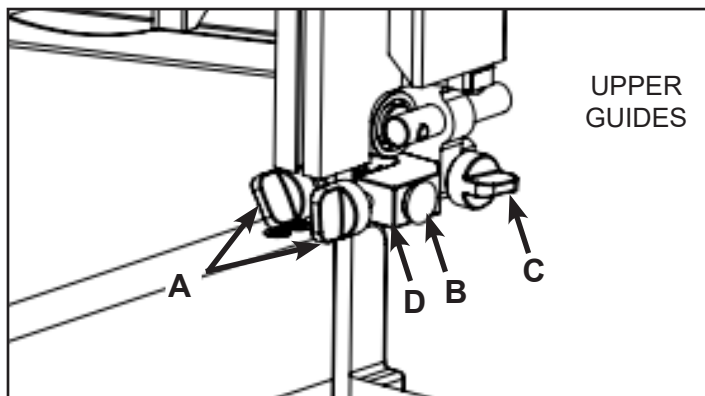
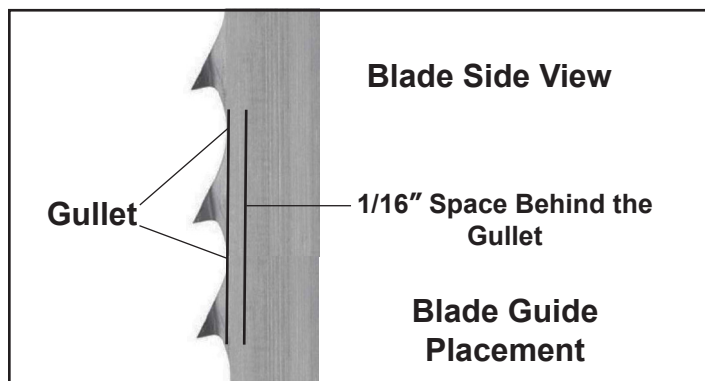
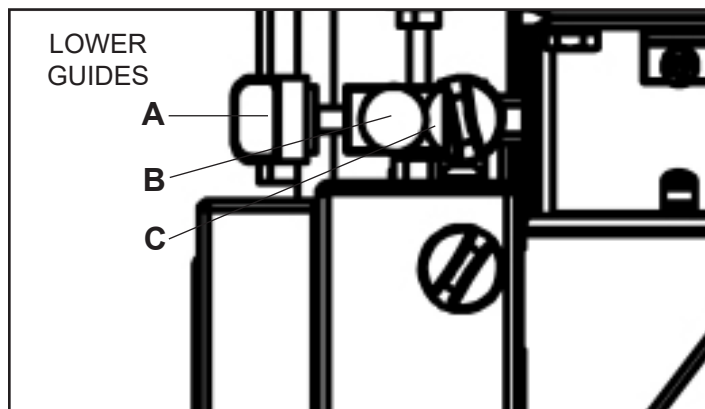
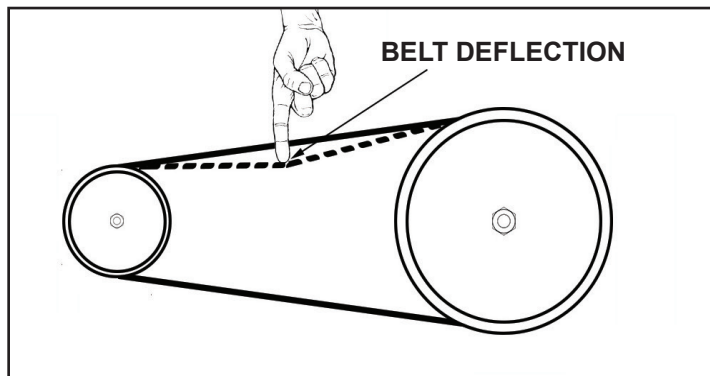

FIGURE 17
FIGURE 18
FIGURE 20
FIGURE 25
1. Position the right and left guides about 1/32" to the blade sides. First, loosen their front Lock Handles (#108, FIG. 17, A) by twisting them counterclockwise. The guides are spring loaded! To move the side guides (B) towards the blade, simply push the ends of the guide shafts. Lock the guides in place by tightening the lock handles clockwise. FIG. 17.
2. The guides should be approximately 1/16" behind the gullets of the saw blade. FIG. 18. If they need to be moved, loosen the back Clamp Handle (#103, FIG. 17, C) and move the Upper Guide Block (#107, FIG. 17, D) that holds the guides so that the guides are properly positioned behind the blade gullets. Re-tighten the handle when done.
1. Position the right and left blade guides close to the blade. Loosen the front Lock Handles (FIG. 20, A). Move the guides towards the blade by pushing the ends of the Guide (B). Lock the guides in place. FIG. 25
2. The guides should be approximately 1/16" behind the gullets of the saw blade. FIG. 18. If they need to be moved, loosen Lever Handle (#124, FIG. 20, C), located to the rear of the Lower Guide Block (#107), and move this block that holds the guides so that the guides are properly positioned behind the blade gullets. Re-tighten the lever handle when done.
3. Tension the drive belt so there is about 3/8" to 1/2" deflection. DO NOT over tension the belt as this can put excessive, damaging pressure on the belt, pulleys and motor. FIG. 25.